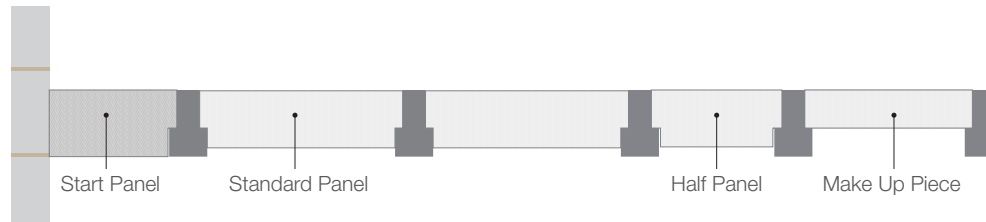

Fig. 2
4. The TS infill panels should be placed between the beams as shown in fig.2.